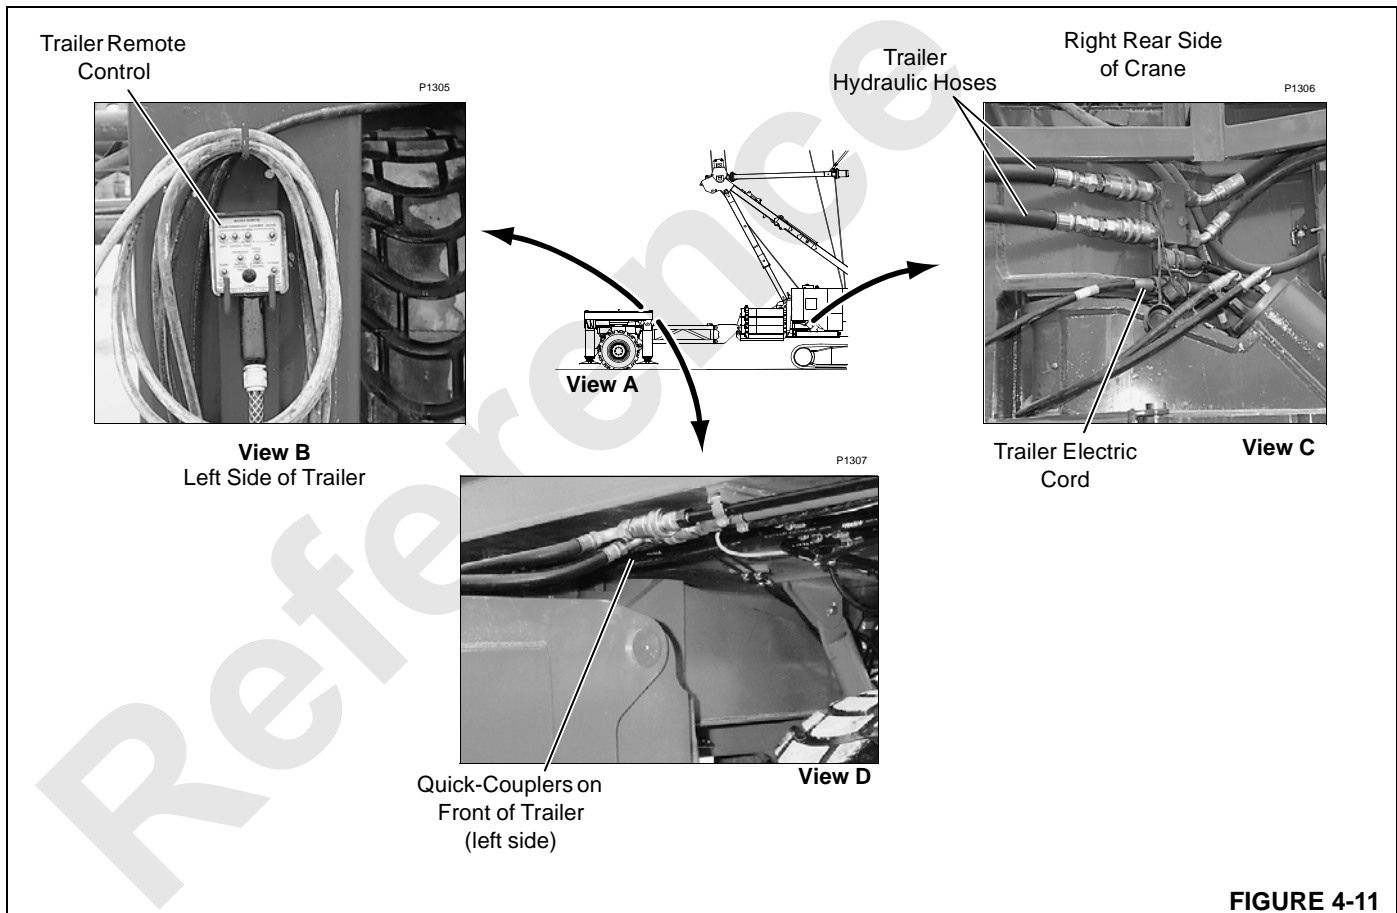

FIGURE 4-11
4. Connect hydraulic hoses from trailer (Figure 4-11, View D) to quick connect couplers on crane (Figure 4-11, View C).
5. Connect electric power cord from trailer to receptacle on crane (Figure 4-11, View C).